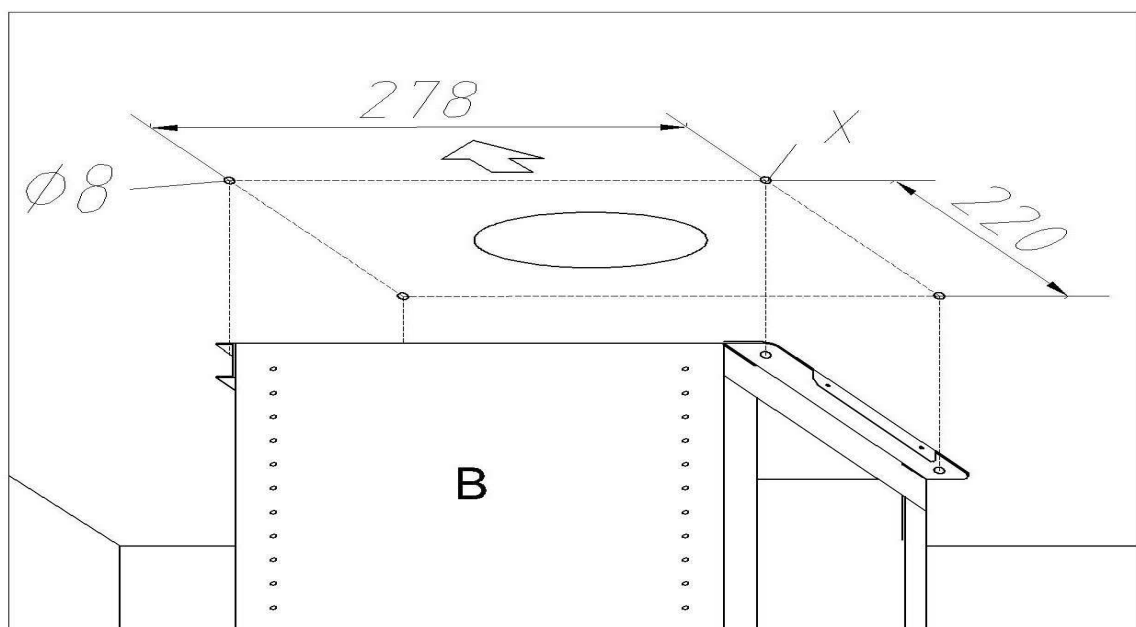

Fig.2
2. Make sure that the arrow is positioned on the same side as the appliance controls. Make 4 Ø8 holes in the ceiling and drive in 3 screws without completely tightening them (Fig2). Do not insert the screw into the hole marked **X** in the illustration. Note that the screws and expansion plugs must be suitable for the type of wall.